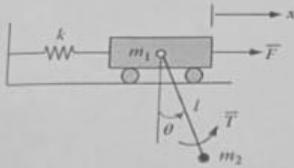

Figure -3
07. A) Define the terms kinetic energy and potential energy in a lagrangian equation. Derive the force-acceleration relationship for the 2-DOF system shown in following Figure -3 using lagrangian mechanics equation. (14 Marks)